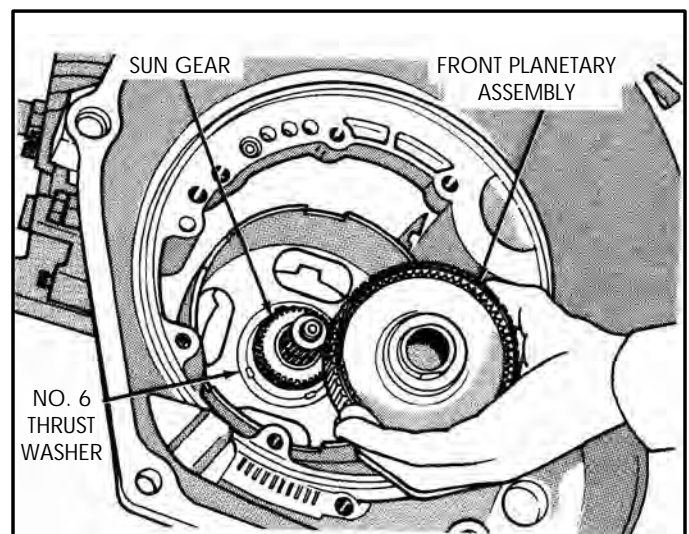

Figure 49
29. Remove front planetary assembly, as shown in Figure 49, and set aside for the component rebuild section.